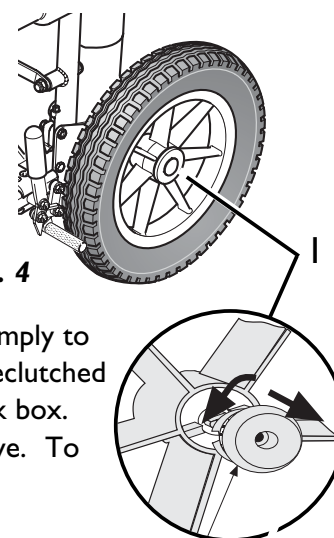

Fig. 4
1. Drive Mechanism couplings and Freewheel is engaged in drive Position (Fig. 4) and Parking locks (Manual) are released.